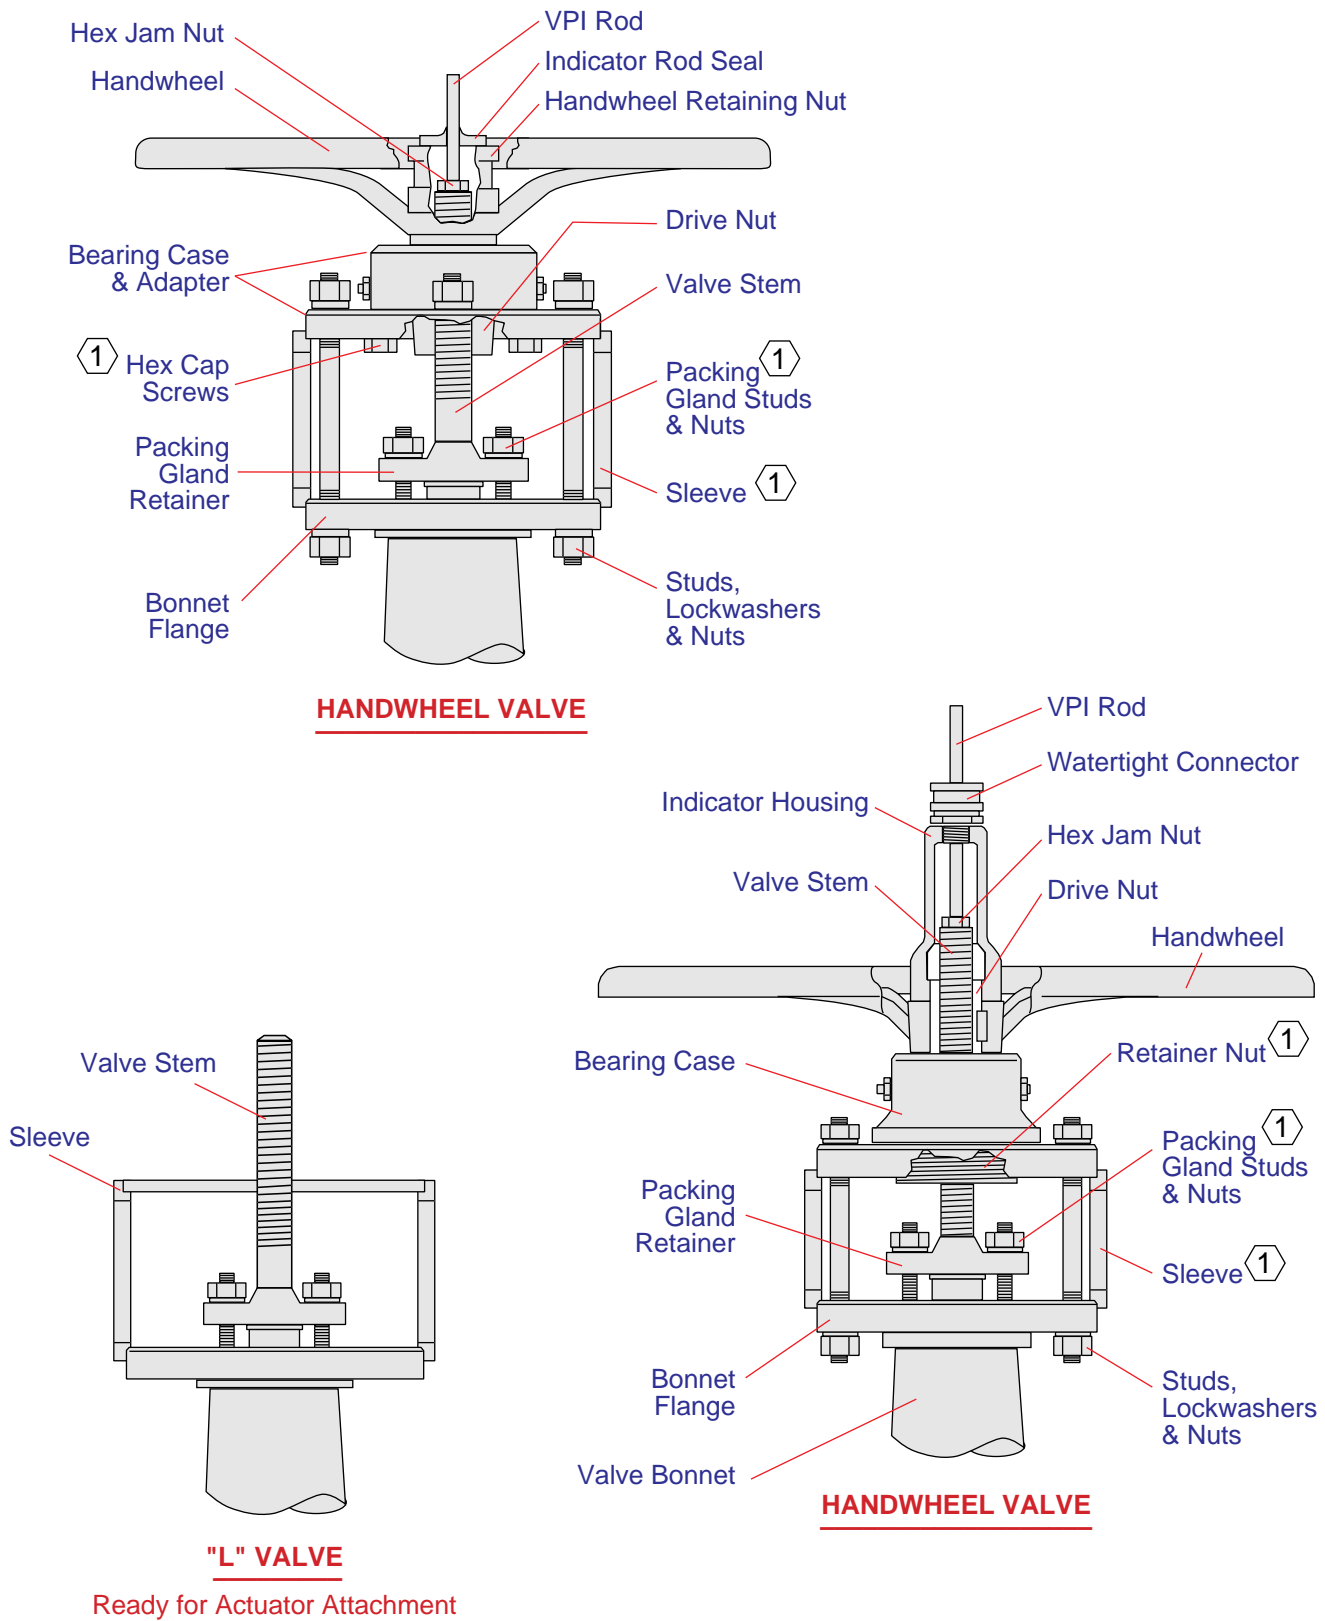

FIGURE 25
Refer to Figure 25 for steps 1 through 5.
10. Check that the packing gland nuts on the valve (see Figure 25) are accessible with a wrench. If they are not accessible, the valve sleeve will need to be rotated until they are.